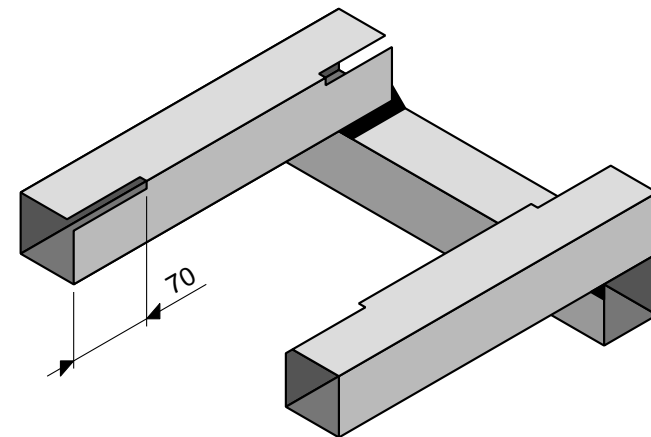
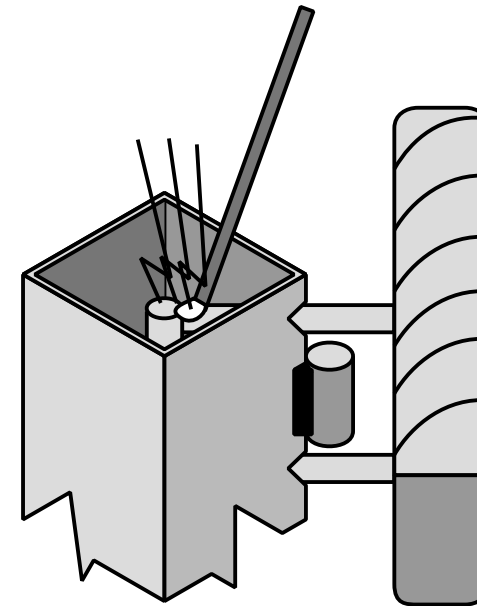

Figure 7: pad nail slots.
Figure 9: welding re-bar to frames for wooden load pads.
Hammer two nails through each of the pads in the positions shown in the drawings. With some timbers you may need to drill holes for the nails to avoid splitting or burn the holes with a hot nail. Then cut the nails so that about 30 mm projects from the timber as shown in Figure 9.
should be 15 mm and 65 mm from the ends of the square tube as shown in Figure 7. Blow the holes through with the welder at maximum current setting or use an angle grinder or file or hacksaw.
- 6) Next you can weld on the pad pivots blocks as shown in Figure 7.
are very loose in them. Make up the pads as shown in Figure 9, put the nail loop into the slot in the right place and weld the pad pivot blocks into place across the slot so that they are in the same place as in Figure 7.